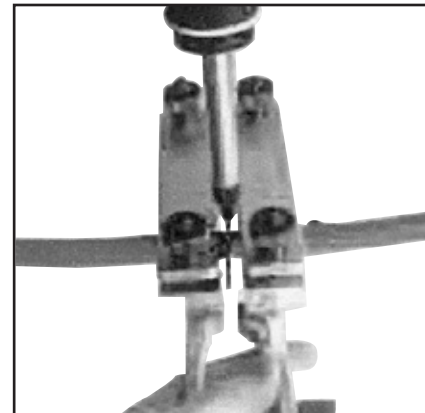

Figure 17
- Loosen thumb nut on right approximate 1-1/2 turns and allow the handles to open. With your left thumb, hold the spacer forward and with your right hand, insert the blade of hot knife between belt ends and squeeze handles together. (See Fig. 17)